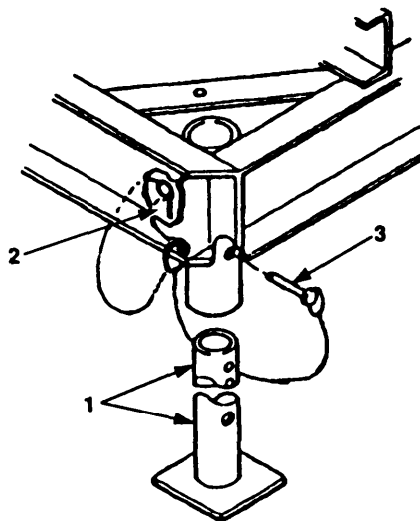

Figure 4-61. Support Leg Maintenance.
- b. Using jack, carefully tilt entire assembly until enough clearance is attained to remove support leg (figure 4-61, 1).
- d. Remove retaining pin (2).
- e. While holding support leg (1), remove anchor pin (3).
- f. Remove support leg (1).
- a. Position support legs (1), align anchor pin holes, insert anchor pins (3).
- b. Install retaining pins (2).
- e. Lower assembly until support legs (1) are fully down. Remove jack.